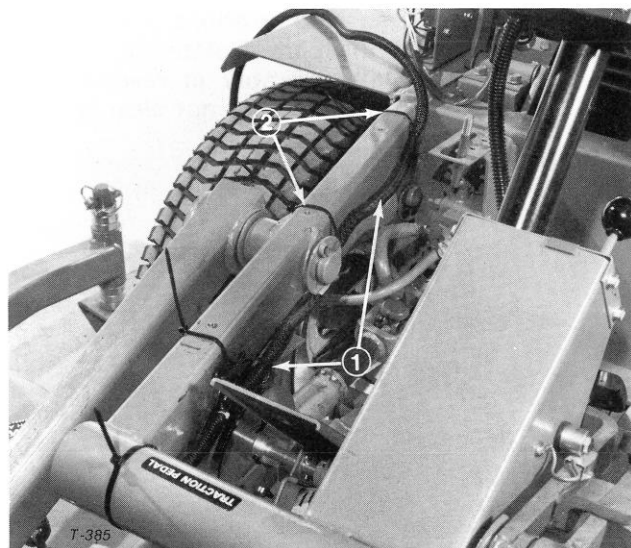

Figure 33
3. Unlatch clamps and remove instrument cover. Route harness under right frame member and secure with cable ties (Fig. 33).